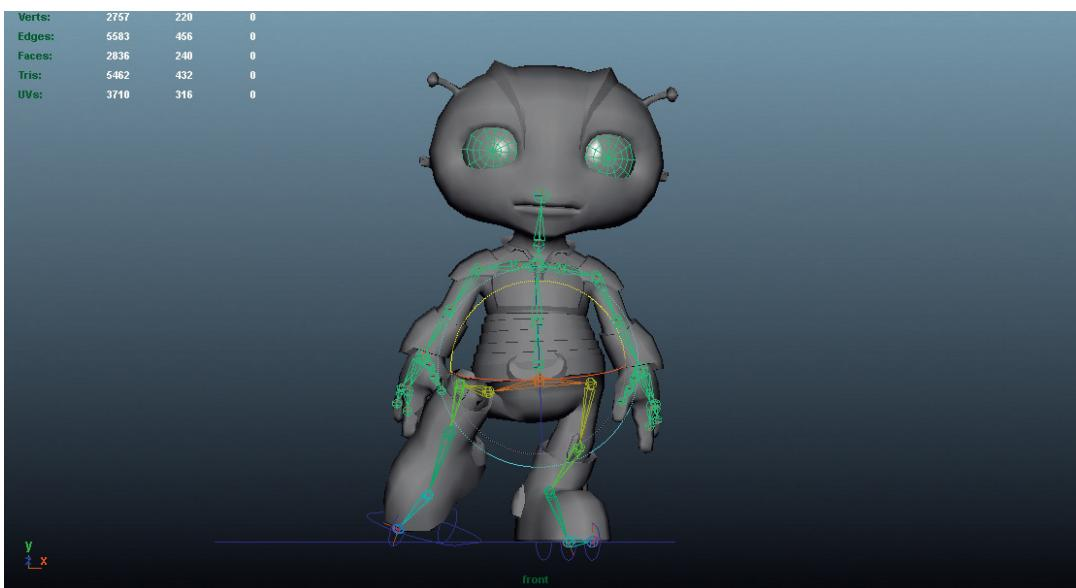

FIG 9.37 Balancing on passing poses.
Step 24: Balance the back at passing poses. This one is a little trickier; but the concept is the same. Take a look in the front view and look at frames 6 and 18. Because the hips are rotated to show the weight on one leg, the whole body will be crooked. Select each of the back joints one at a time, and rotate (only along Y) to counteract and balance the form (Fig. 9.37). You'll need to do it one at a time because positive Y for one joint may rotate the back in the opposite direction as the joint above it (some will need to rotate positive and some negative). The results should be a more balanced alien like Fig. 9.37.